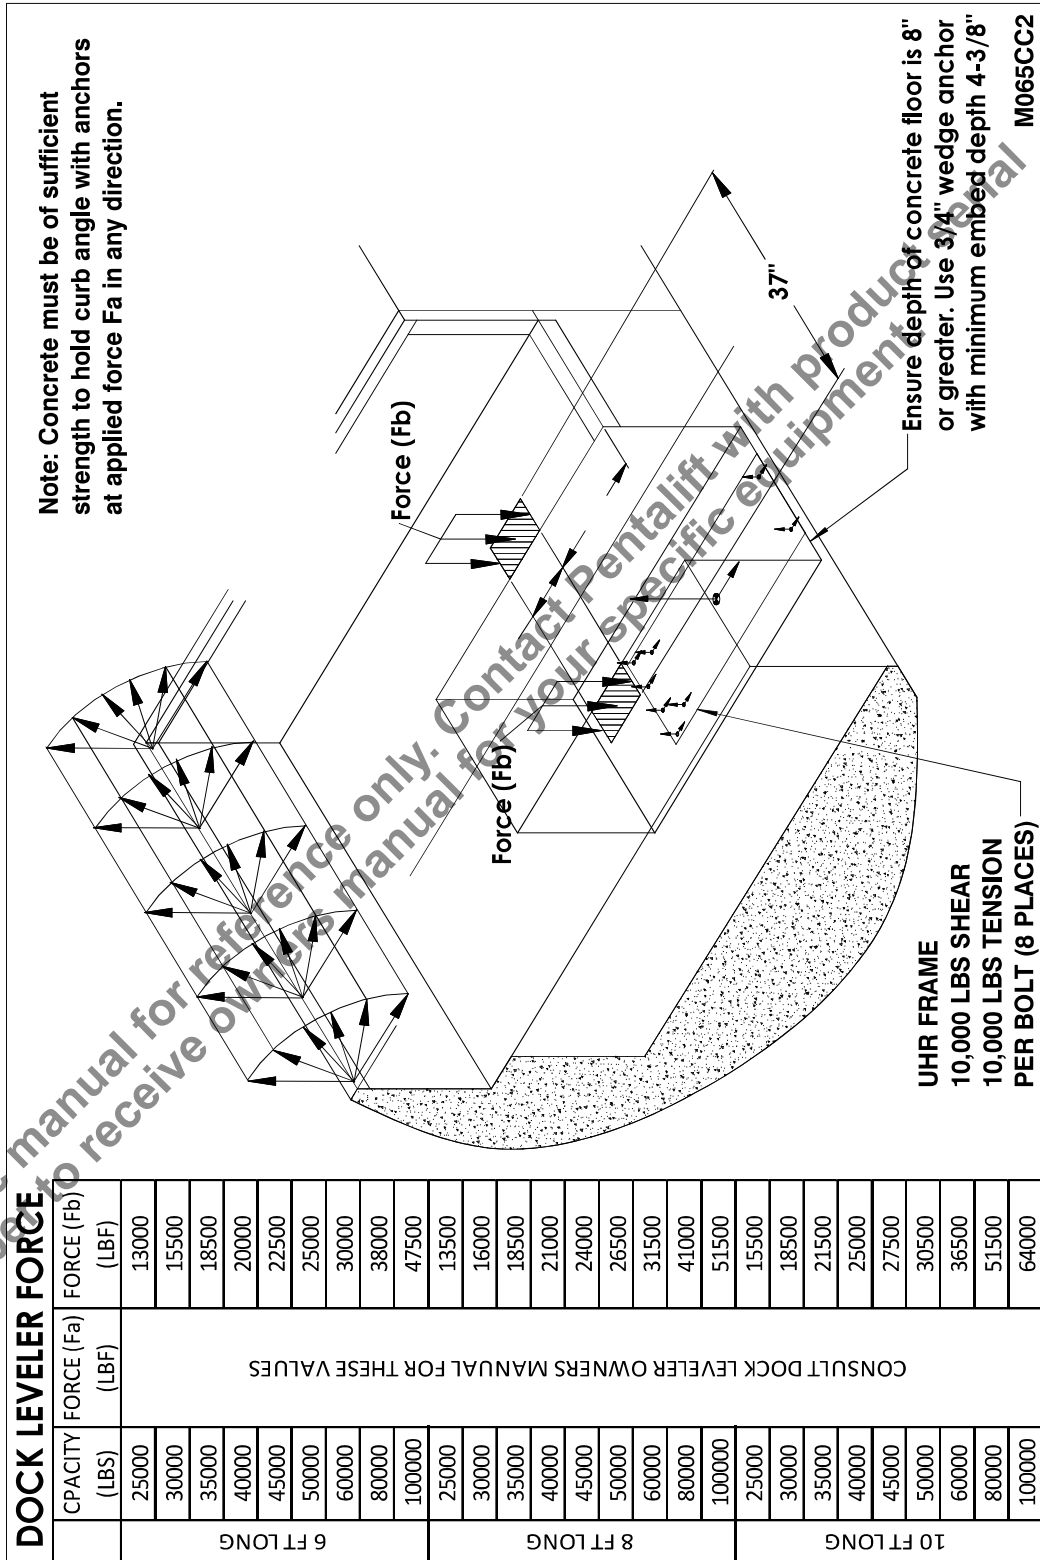

Figure 6: Concrete Loading Diagram for Lagged in Models
1. \_\_\_ Ensure pit construction has sufficient strength to meet the draw pull forces which will be applied. (See Figure 6: Concrete Loading Diagram for Lagged in Models on page 10.) Further, ensure the dock leveler pit, as well as the restraint pit, meet the pit diagram dimensions as provided by the manufacturer, complete with appropriate conduit(s).
8. \_\_\_ Lag the frame to the pit floor using 3/4" lag bolts with a minimum shear value of 10,000 lb and minimum tension value of 10,000 lb. (see Figure 6: Concrete Loading Diagram for Lagged in Models on page 10)